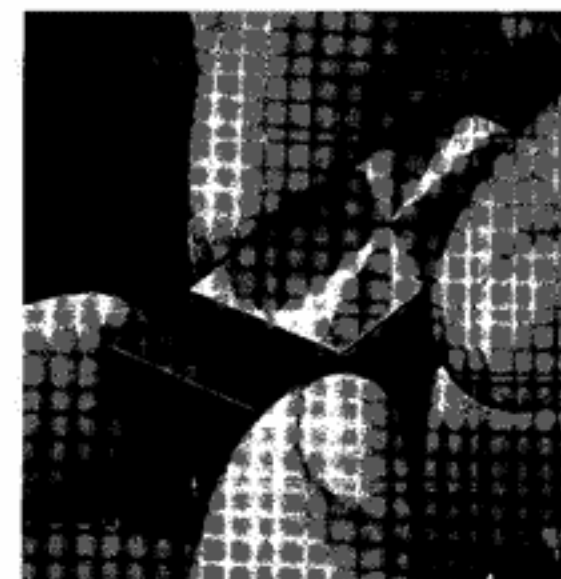

Fig. 4
- Remove cartridge slide from tonearm head by gripping sides of slide and pulling gently forward while supporting the tonearm (Figs. 4 and 5).